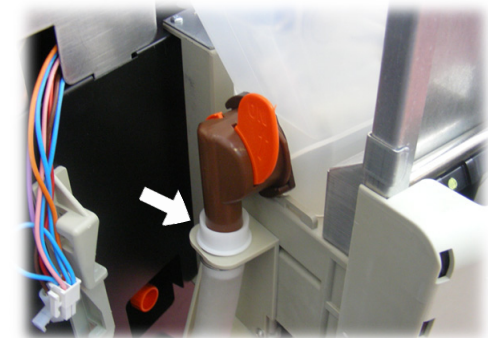

Fig. 91
- replace the container taking care to insert the nozzle into the coupling (Fig. 91).